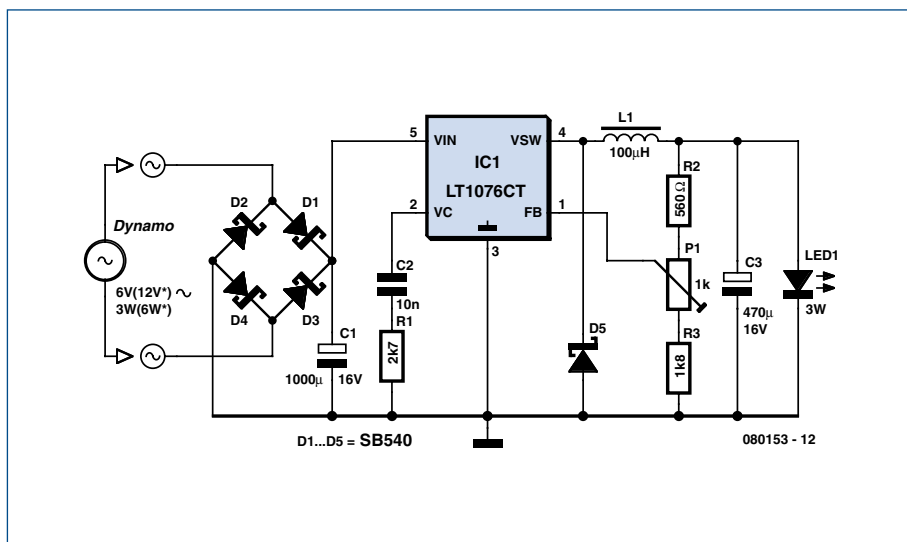

Figure 4. This final circuit for the bicycle light gets the maximum possible illumination from the 3 W LED.
**Figure 4** shows a type LT1076 step-down converter [3]. The device requires a minimal number of external components and draws only 8.5 mA to power its internal circuitry. It operates at 100 kHz, can start up from an input voltage of 3.5 V and can deliver up to 2 A. D1 to D4 form the bridge rectifier, and D5 is the flyback diode. At 5 A the SB540 is somewhat overspecified for this application; at 0.5 A the diode only drops 0.33 V. Good 1 A Schottky diodes such as the SB140 can be substituted for D1 to D5, with a resulting drop in overall efficiency of around 2 %. The RC network comprising R1 and C2 connected to pin 2 of IC1 provides frequency compensation. The regulator compares the voltage on pin 1 with its internal reference (2.21 V), and so the adjustable voltage divider comprising R2, P1 and R3 allows the output voltage to be adjusted from 2.7 V to 4 V. L1 is a fixed 100  $\mu$ H inductor designed for operation at 100 kHz and 1 A. A low